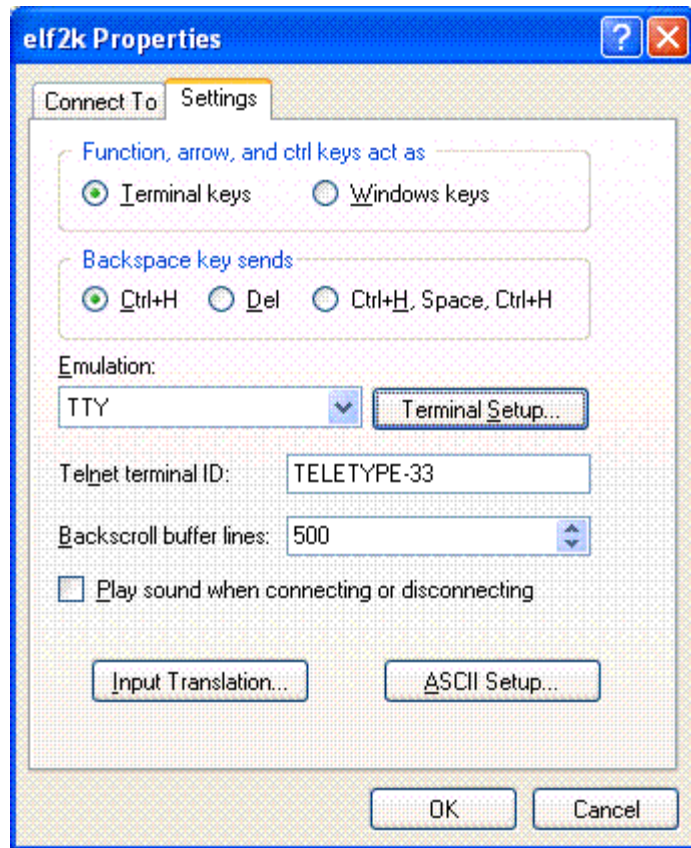

Figure 3- elf2k Properties
6. In the *elf2k Properties* window (see Figure 3) that appears, be sure the *Backspace key sends Ctrl+H* radio button is selected, set the *terminal emulation* to *TTY* and click the *ASCII Setup...* button.